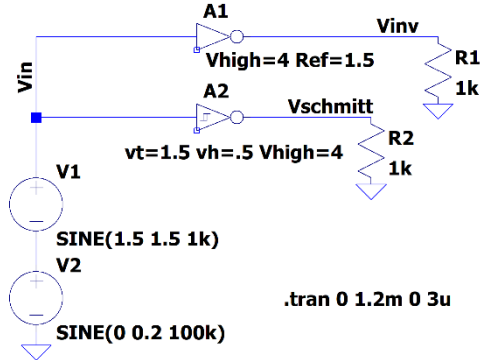

Figure C-3a A1 is a inverter. A2 is an Schmitt Trigger. Run first with a 0V amplitude for V2 (the noise source) then with 0.2V amplitude.
- Create circuit in Figure C-3a in *LTspice*. There is a [Digital] library which contains logic gates. Or you can type *inv* for the inverter, *and* for the and gate, ... We will use the *inv* (inverter) to show the behavior of the SN7404 inverter chip and the *schmittinv* (Schmitt trigger inverter) to show the behavior of the SN7414 Schmitt Trigger Inverter chip. See figures C-3b and C-3c.